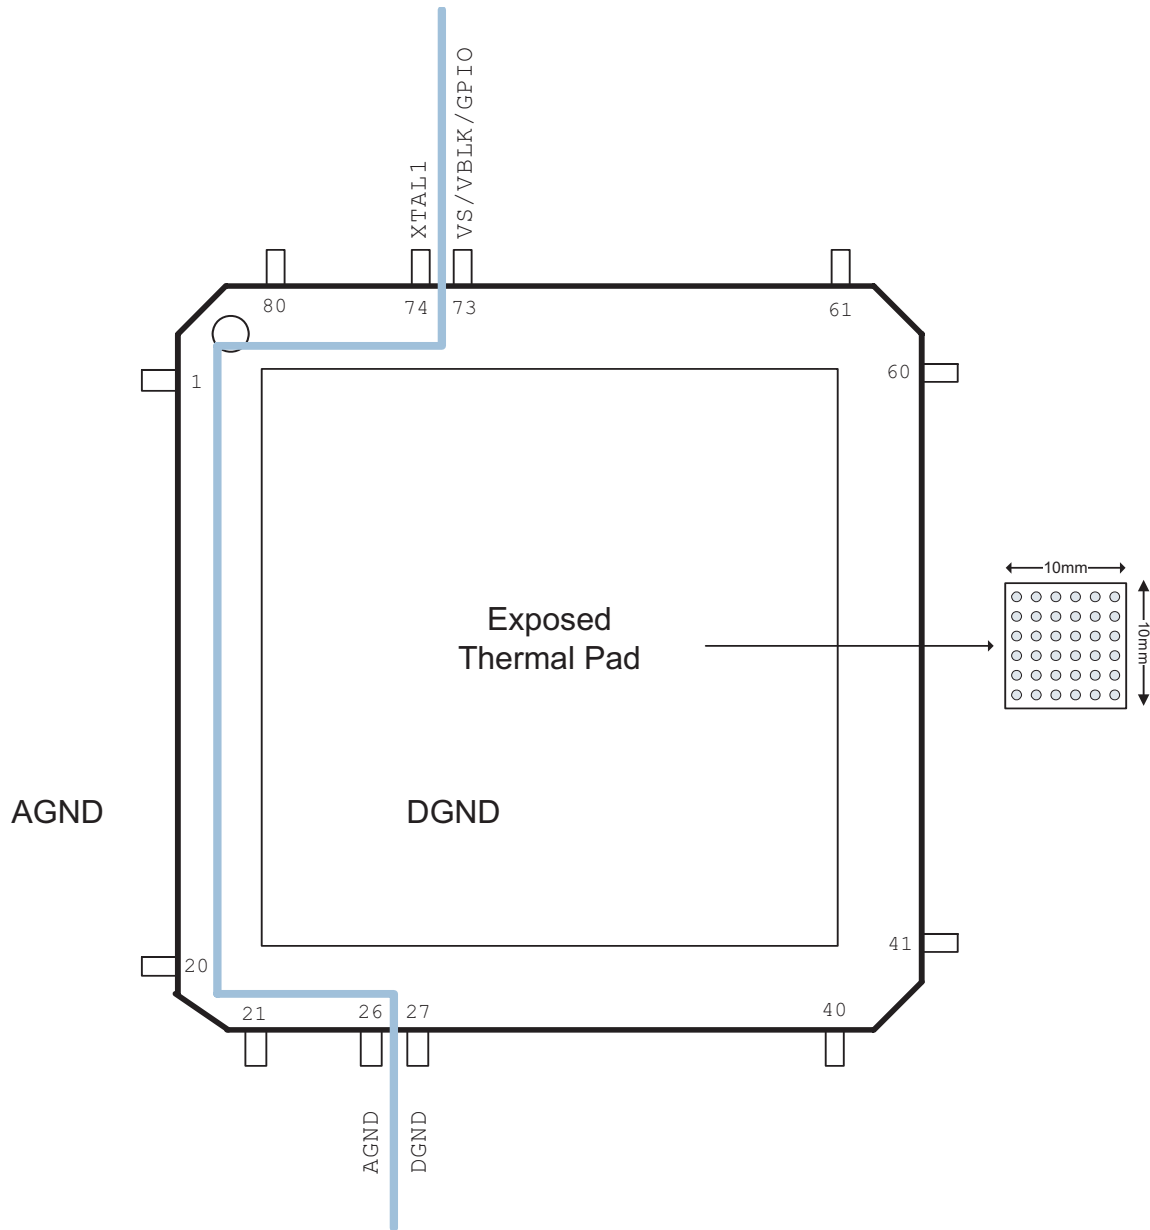

Figure 1. Recommended Split Between Ground Planes
- See Figure 1 for the recommended GND split in split GND designs.